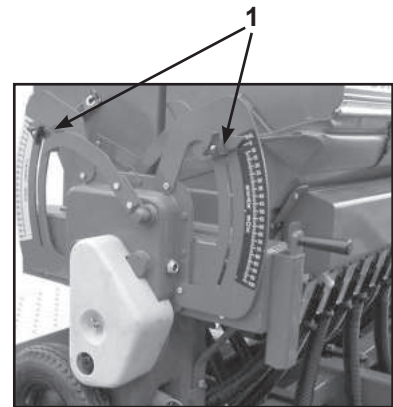

Fig 6
To set the seed rate at the gearbox, slacken the star knob (1) by turning counter-clockwise and push from below into the position indicated in the Sowing Chart. Retighten the star knob firmly (Fig 6).
Using the stepless variable speed gearbox, the speed of the metering shaft and thus the seed rate is set steplessly. The higher the figure indicated on the scale by the setting lever the greater the seed rate (Fig 6).